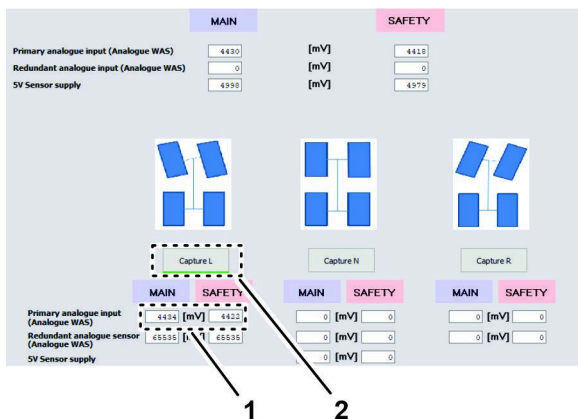

Figure 148
4. Click the CAPTURE L icon (Figure 148).